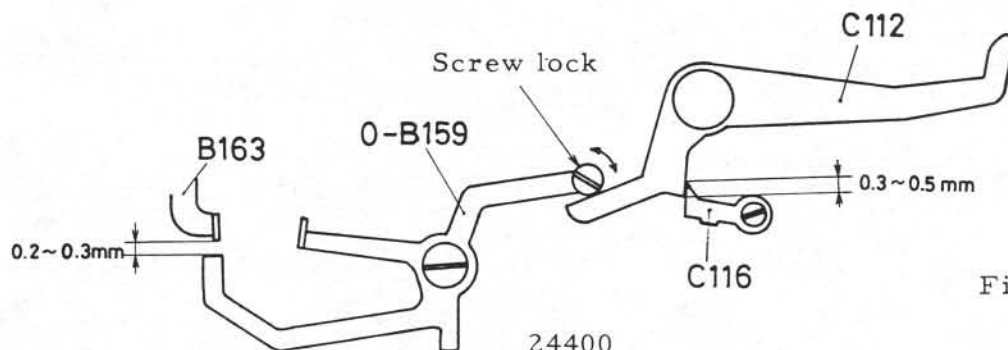

Fig. 24
- 22-2 Set the Hold lever (C116) by pushing up it by a finger as shown in Fig.24 and then make the 0.2 - 0.3mm clearance between B163 and 0-B159 by turning the eccentric screw as shown in Fig. 24.